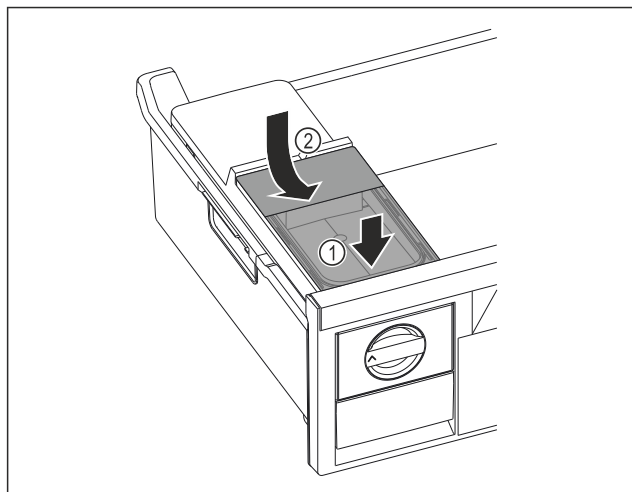

Fig. 82
- Position the water tank at the front. Fig. 82 (1)
- Lower the water tank at the rear. Fig. 82 (2)